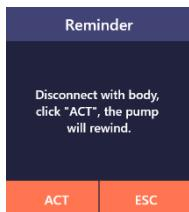

Figure 4.19
**(1)** Disconnect from body. click "ACT" to rewind, then the user can continue to replace the reservoir, or click "ESC" to return to the "More" interface (as shown in Figure 4.19).